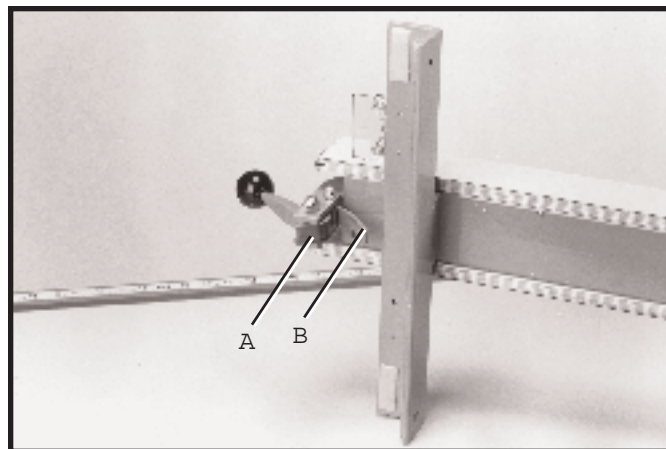

Fig. 31
2. Apply grease to cam lock (A) Fig. 31, and cam foot (B) occasionally to prevent wear.